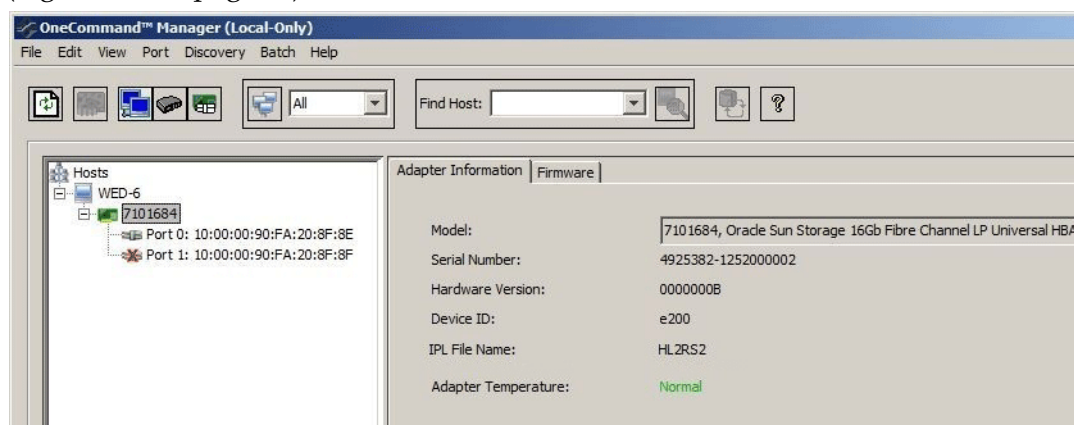

Figure 7-1 FC Adapter Information Tab
When you select an FC adapter from the discovery-tree (Figure 4-3 on page 40), the Adapter Information tab (Figure 7-1 on page 65) contains general attributes associated with the selected FC adapter.
2. Select an FC adapter in the discovery-tree. The Adapter Information tab appears (Figure 7-1 on page 65).